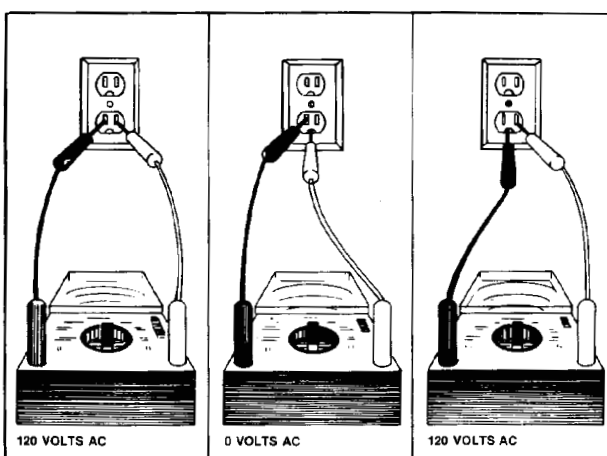

Figure 1-6
It is the responsibility of the person installing the appliance to ensure it is adequately grounded and polarized at the point of installation. Local conditions and requirements should be taken into consideration. In cases where only a two (2) prong receptacle is available, it is the personal responsibility of the customer to have it replaced with a properly grounded and polarized three (3) prong receptacle (**Figure 1-6**).